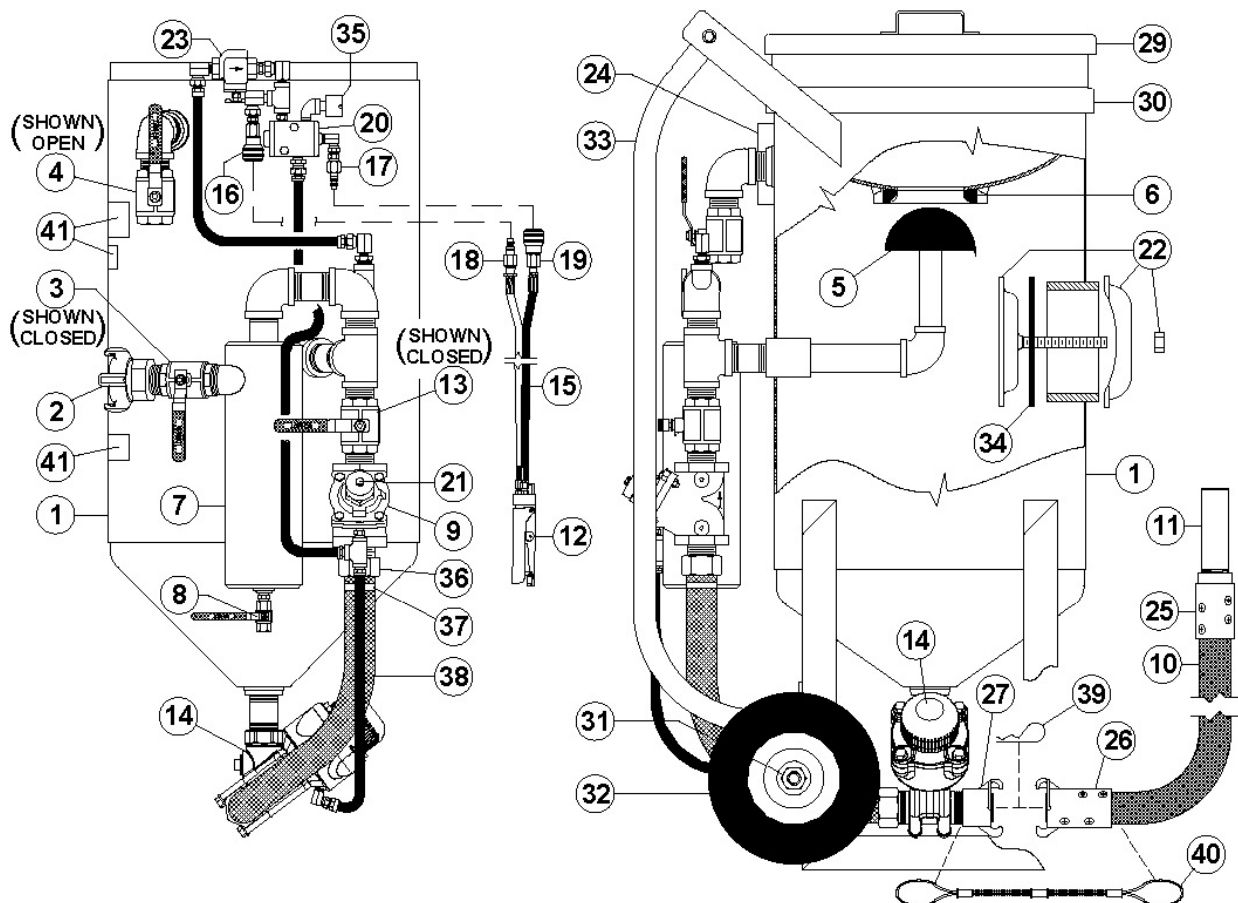

Figure 6.2 – Thompson Valve Abrasive Blaster with pneumatic blast controls
6.1 Abrasive Blaster Setup Procedure (see Figure 6.2 and 6.3)
- 6.2.1. Close the air inlet ball valve (#3). The ball valve is closed when the handle is fully turned to the position shown in Figure 6.2 (handle perpendicular to body). The handle tab will bottom against the ball valve body in the closed position.